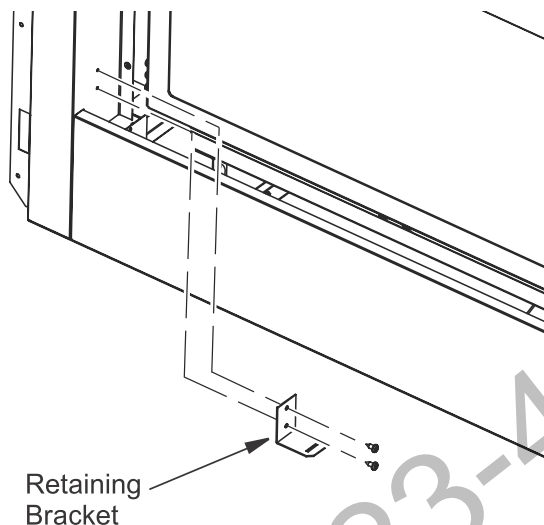

Figure 32 - Installing Access Door Retaining Brackets for See-Thru Applications
1. Screw access door retaining brackets into the inner side face using 2 screws on both the left and right side as shown in Figure 32.